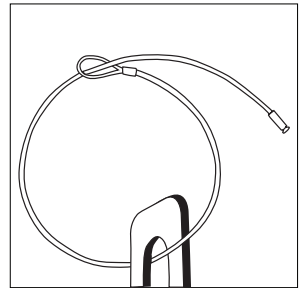

Figure 2
2. Wrap cable around object and back through looped end (Figure 2).